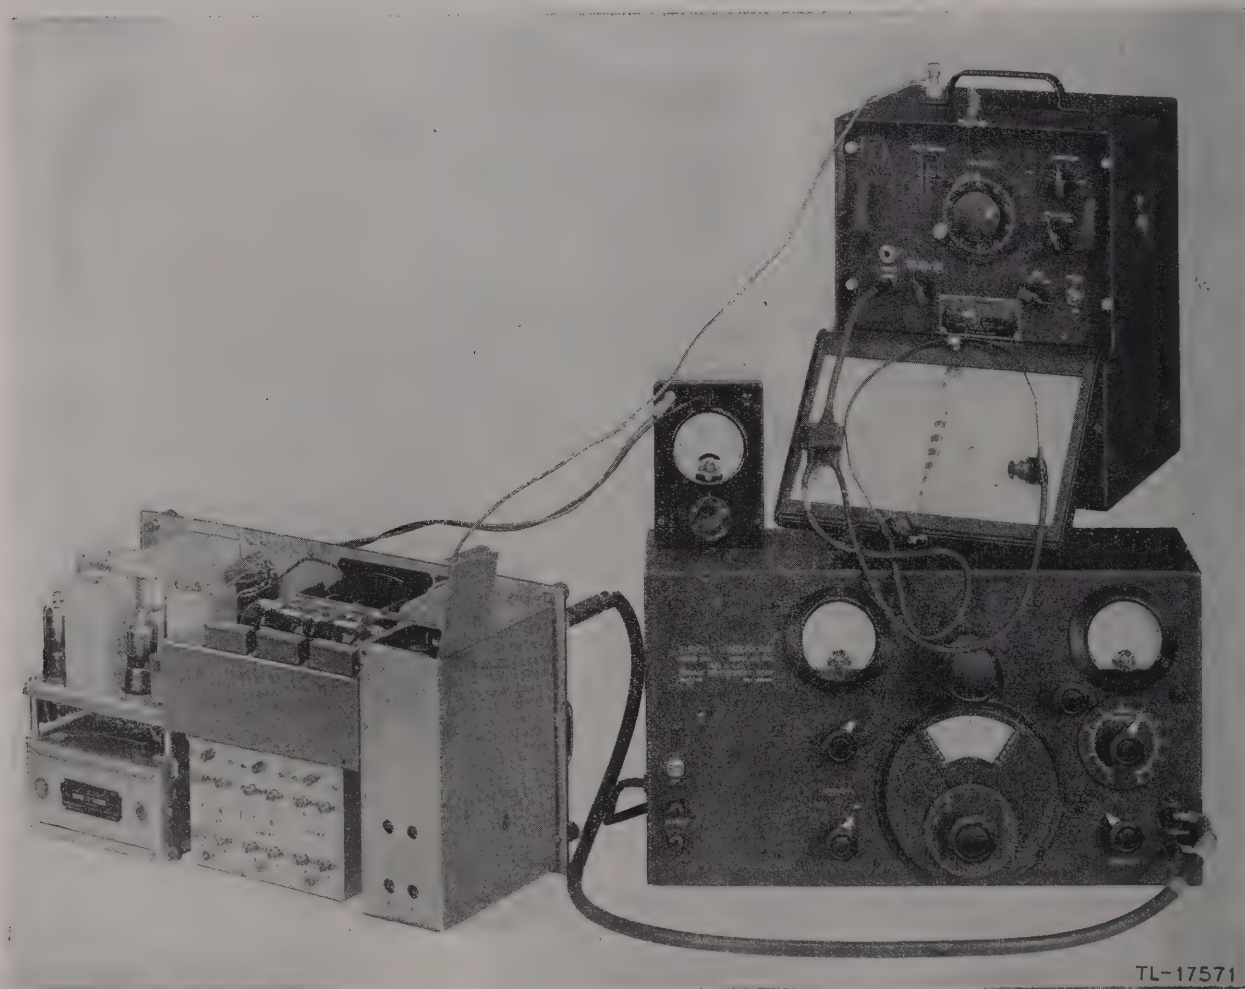

Figure 13. R-f oscillator alignment, typical set-up.
b. PREPARATION. Set up the receiver and alignment equipment as shown in figure 13. Calibrate the signal generator for a 255-kc signal (par. 16). Set the receiver BAND CHANGE switch on band A (150 to 260 kc), the OFF-M.V.C.-A.V.C. control at M.V.C., the C.W.-OSC. switch at OFF, the SELECT control at maximum, the VOL control at maximum, and the receiver dial at 255 kc. Open the hinged cover of the r-f oscillator compartment; remove the screw caps which permit access to the r-f oscillator trimmer adjustment screws and loosen the screw locknuts.
c. PROCEDURE. (1) Attach the signal generator ground lead to the receiver chassis and connect the 250-mmF (micromicrofarad) capacitor dummy antenna between the grid cap of the first detector tube and the output lead of the signal generator.
(2) Connect the output meter to the PHONES